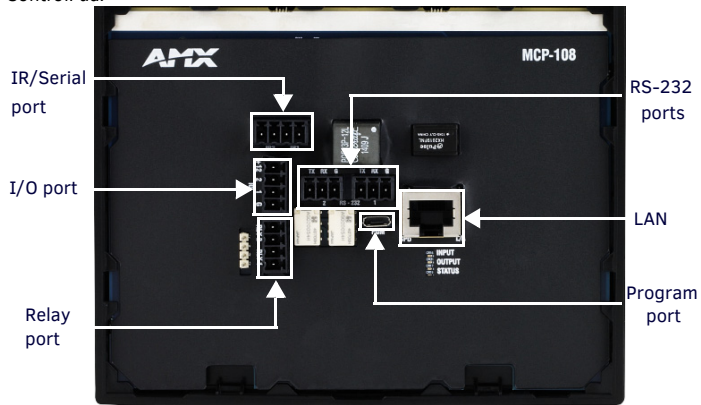

FIG. 5 MCP-108 REAR PANEL
FIG. 5 displays the rear panel of the MCP-108 featuring all available connectors for the ControlPad.
1. Using a standard Micro-USB cable, connect the Program Port on the rear panel of the ControlPad (see FIG. 5) to your PC.